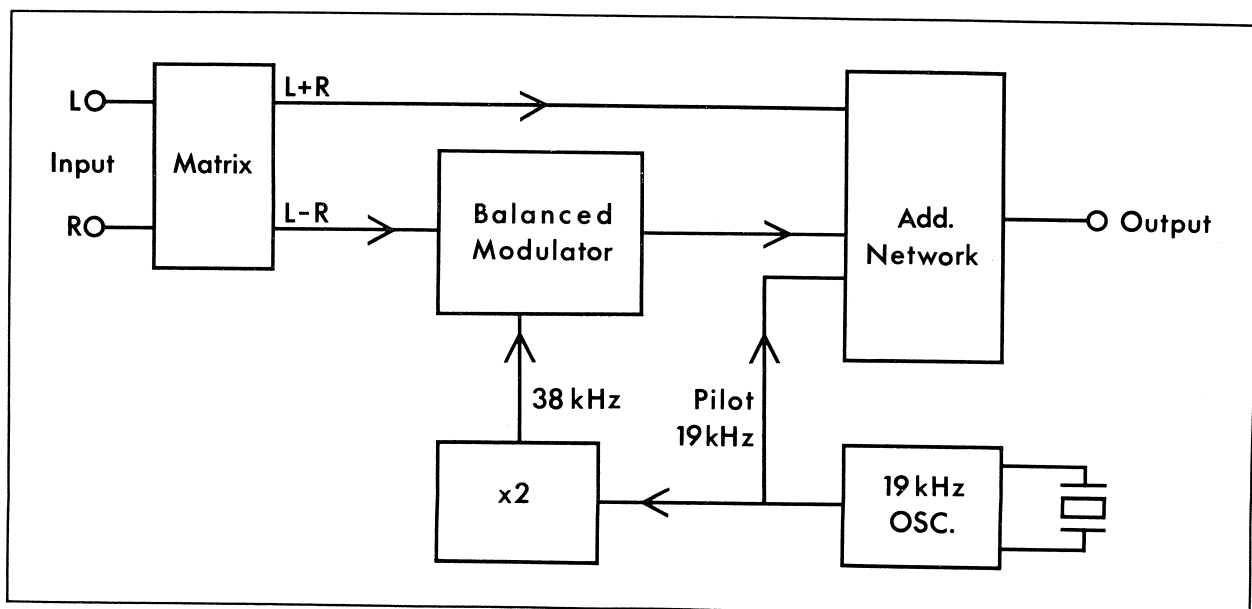

Fig.2. The Matrix Principle
Fig.2 shows the Matrix Principle. In a matrix circuit the sum ($L + R$) and the difference ($L - R$) of the left (L) and right (R) signals are obtained. The sum-signal is passed onwards to an adder network, and the difference-signal is modulated into a 38 kHz carrier. Using a balanced